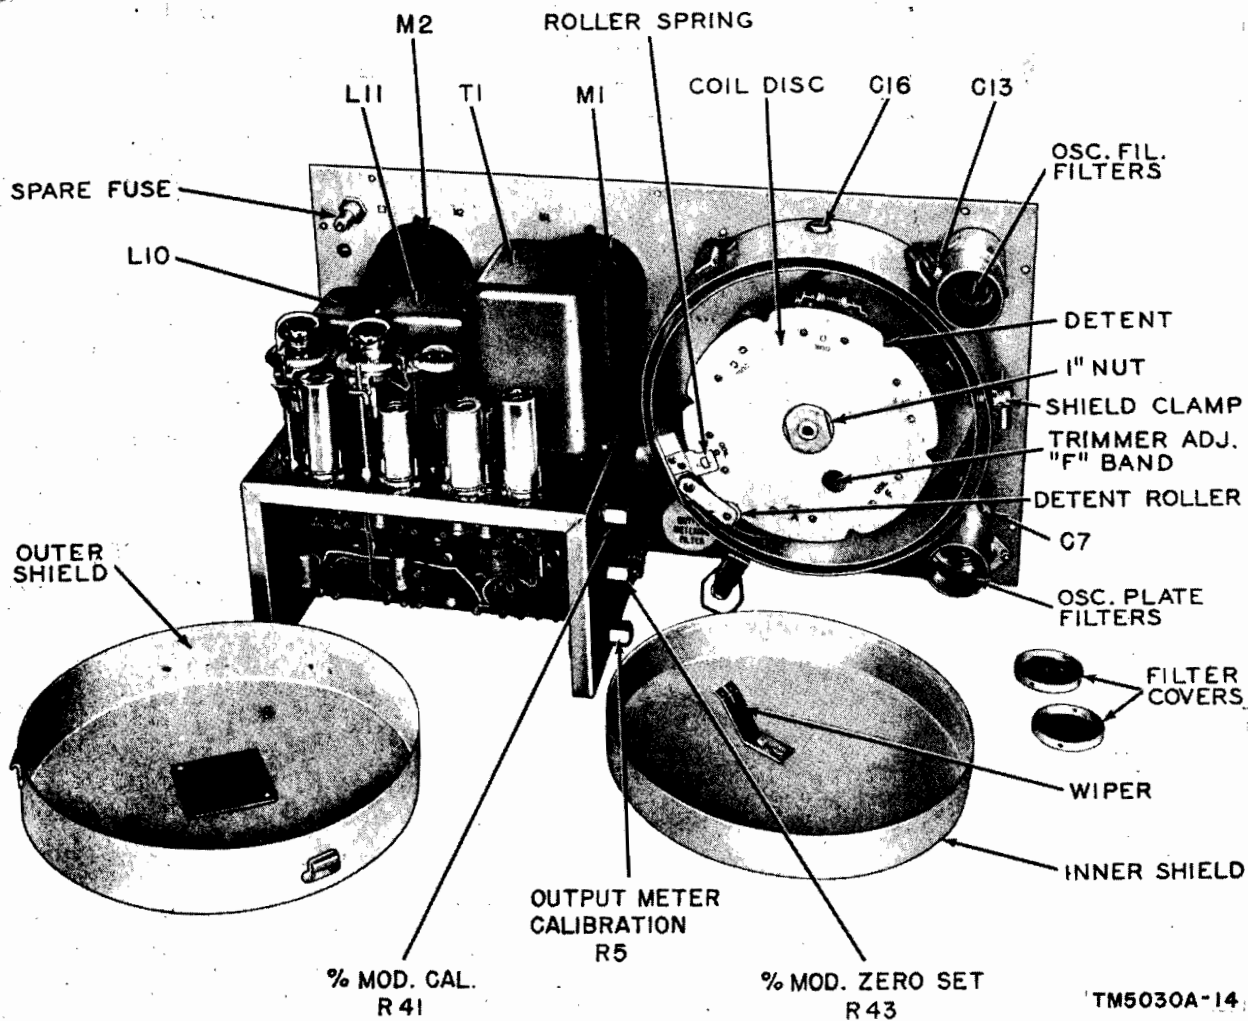

Figure 20. Signal Generator TS-497B/URR, inside rear view.
a. *Drum Shields.* When it is necessary to remove or replace the carrier oscillator drum shields, follow the procedures outlined in (1) through (3) below:
- (1) Carefully unlatch the three shield clamps. Remove the outer and inner shields. Never use tools to pry off these shields since slight dents may cause serious leakage of the carrier.
- (2) When replacing the inner shield, it must be positioned so that the grounding wiper lies adjacent to the roller spring (fig. 20).
- (3) Replace the outer shield and latch.
- (1) Remove the lower screw from the roller spring bracket. This screw is nearest to the roller spring (fig. 20).
- (2) Unscrew the upper screw about $\frac{1}{4}$ inch (2 turns). Remove the roller from the spring. The roller is held in position by the pressure of the spring.
- (3) Push the spring to the left far enough to clear the coil disk.
- (4) Rotate the coil disk to place the detent roller midway between two detents.
- c. Remove the two retaining screws which hold the coil mounting clips of the defective coil (figs. 20 and 21). In most cases, a defect in any part of the coil assembly will require replacement of the entire assembly.